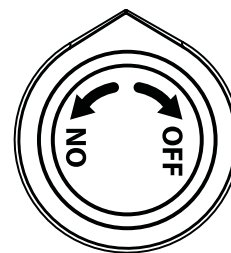

Fig. 27-2
4. **While holding the igniter button in, verify that the electrode is sparking.** Then turn the gas control knob counter-clockwise to the **ON** position, depress, and hold for 15 seconds (see Fig. 27-2). Your burner should light.
To extinguish your gas burner, depress the gas control knob and turn it clockwise to the **OFF** position (see Fig. 27-2). Be sure the control knob is turned fully off to avoid any gas leakage.